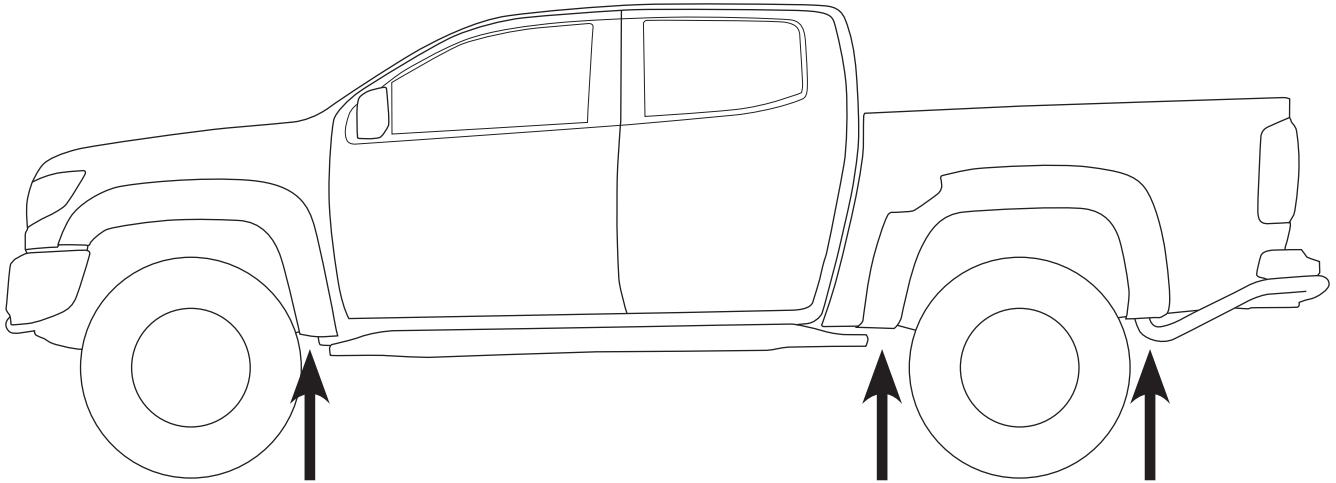

Figure 4
4. Install supplied push clips at bottom of flares (fig. 4).